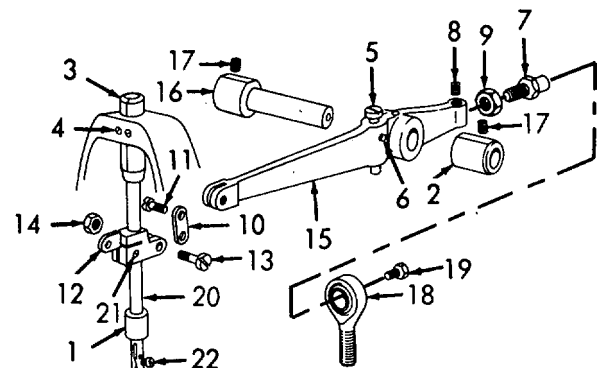

Figure 6-138. Needle Bar Drive Mechanism, Installation.
- (3) Refer to Figure 6-138. Install bushing (1) and bushing (2).
- (4) Install bushing (3) and tighten setscrew (4).
- (5) Install plunger (5) and tighten setscrew (6).
- (6) Install stud (7) and tighten set screw (8) and nut (9).
- (7) Install link (10) and screw (11).
- (8) Install clamp (12), screw (13), and nut (14).
- (9) Install rocker arm (15) through front of arm.